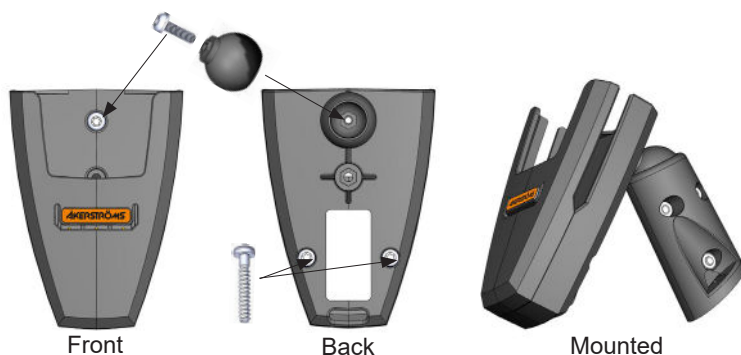

Figure 12. Mounting holder
For holder ② the screws on the back have to be screwed (see Figure 12).
For all holders the ball has to be attached with a screw on the front and a nut on the back (see Figure 12). Tighten the screw with a 3mm Allen key.